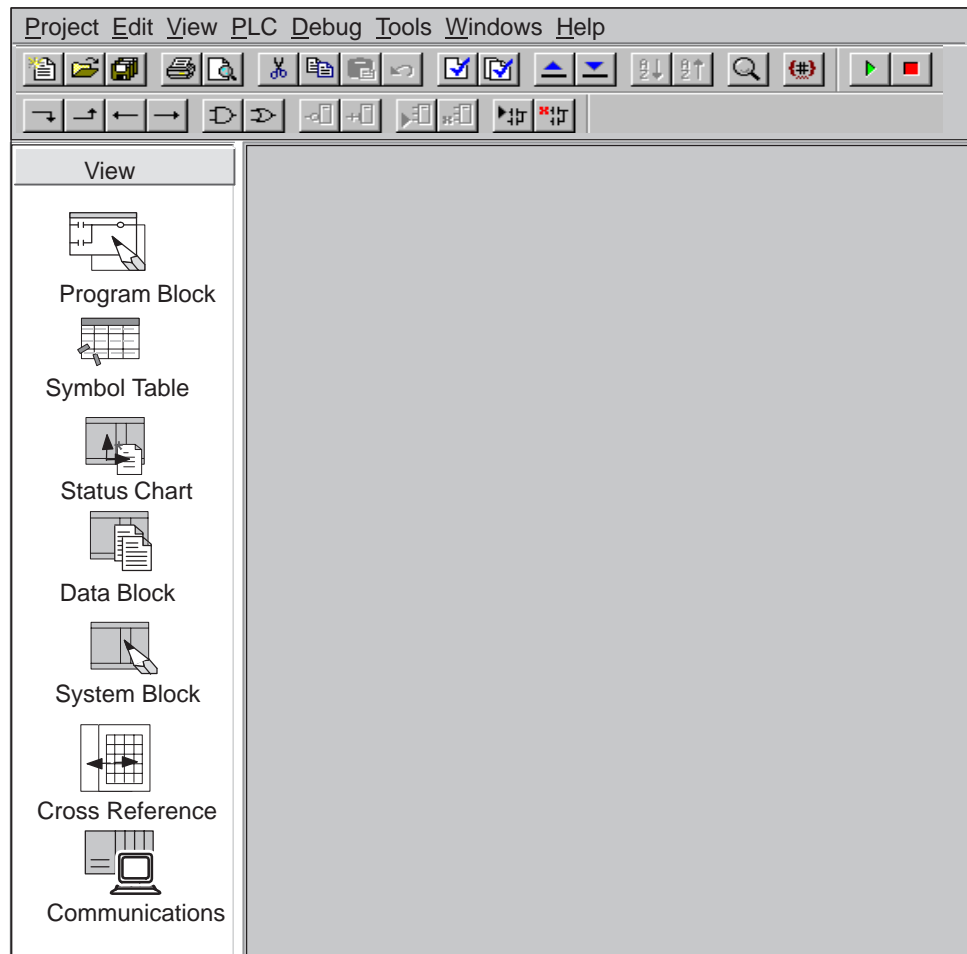

Figure 3-1 View Menu of STEP 7-Micro/WIN 32
6. At the end of the installation, the Setting the PG/PC Interface dialog box appears automatically. Click "Cancel" to bring up the main STEP 7-Micro/WIN 32 window. See Figure 3-1.